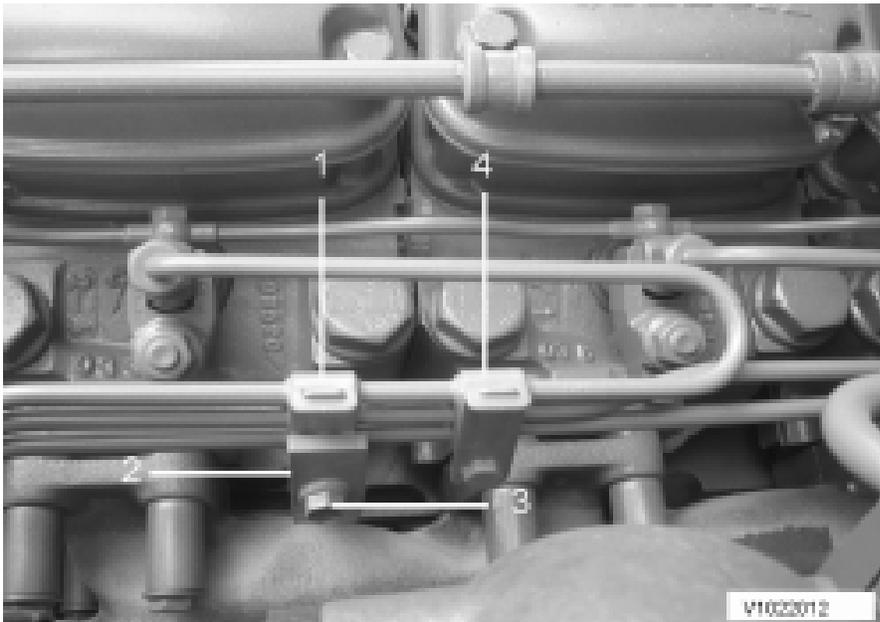

Figure 5.
2. Secure the new support bracket to the engine. Install the new steel-rubber clip around the delivery pipes and tighten down all the bolts. Adjust the bracket to remove any tension in the delivery pipes. The existing steel-rubber clip is to be positioned approximately 20 mm (0.8 in) from the new clip. See Figures 5 and 6.